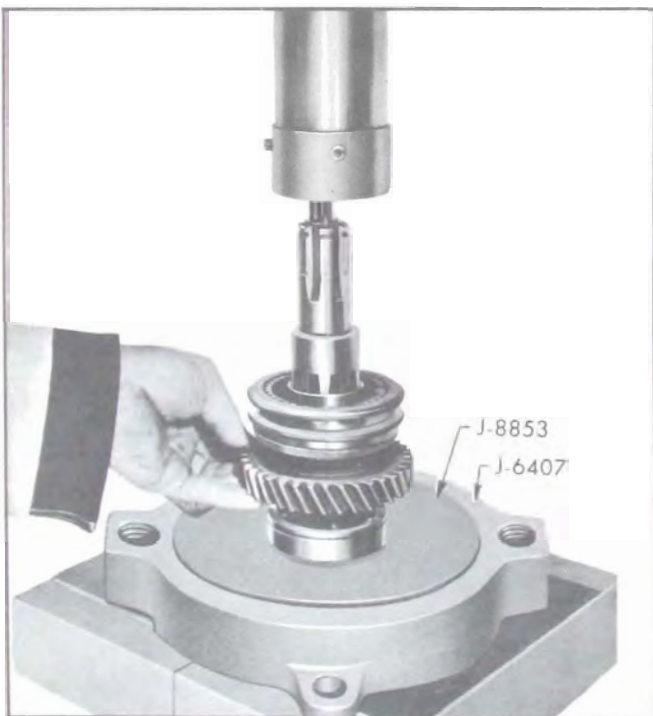

Figure 4-59—Installing Rear Bearing Using J-8853
4. Using J-8853, press on the rear bearing with the snap ring groove toward the front of the transmission (see fig. 4-59). Firmly seat bearing against the shoulder on the mainshaft.